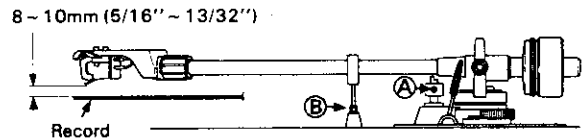

Fig. 14
- Set the cueing lever to UP (▼). Loosen set screw at (A) in Fig. 14, and adjust elevator height so that the stylus is 8~10 mm (5/16" ~ 13/32") above the record surface. Tighten set screw (A).
- The height of the arm rest can be adjusted by first loosening set screw (B). Tighten snugly after adjustment has been made.